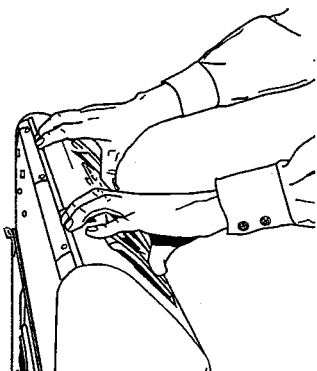

Figure 4-2
4. Grasp the top of the console and gently rock the top of the console forward, (See *Figure 4-2*).